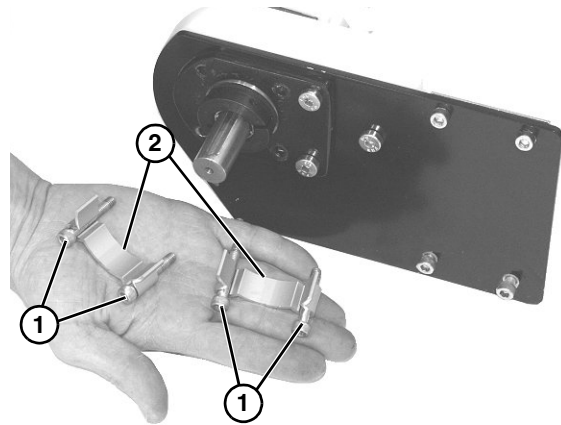

Figure 33
6. Remove four socket head screws (**Figure 33, item 1**) and drive guards (**Figure 33, item 2**).